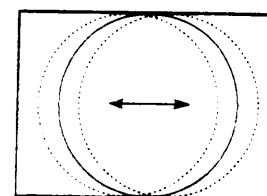

Fig 4.
- d: Adjust the horizontal location to obtain picture centring (fig. 4).